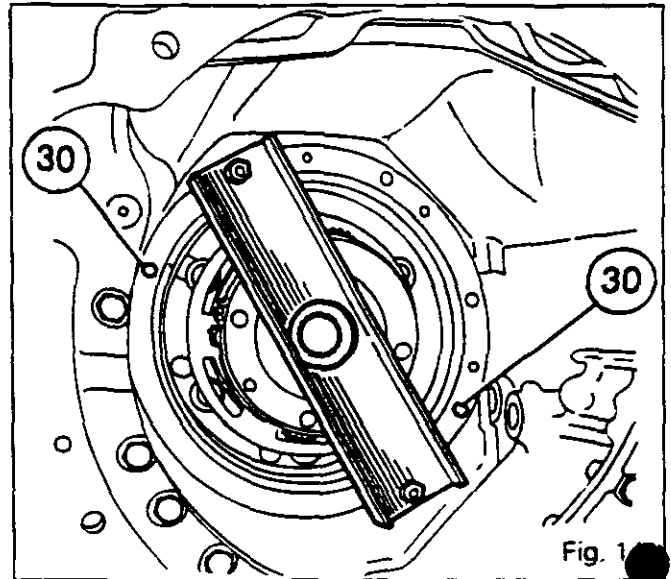
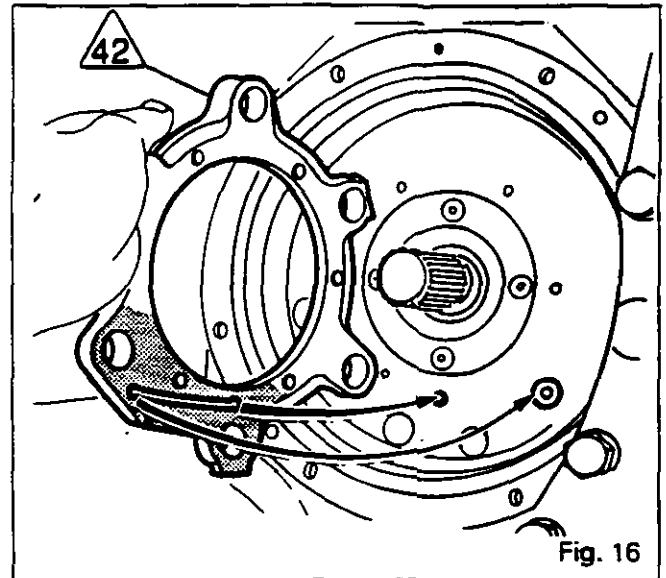
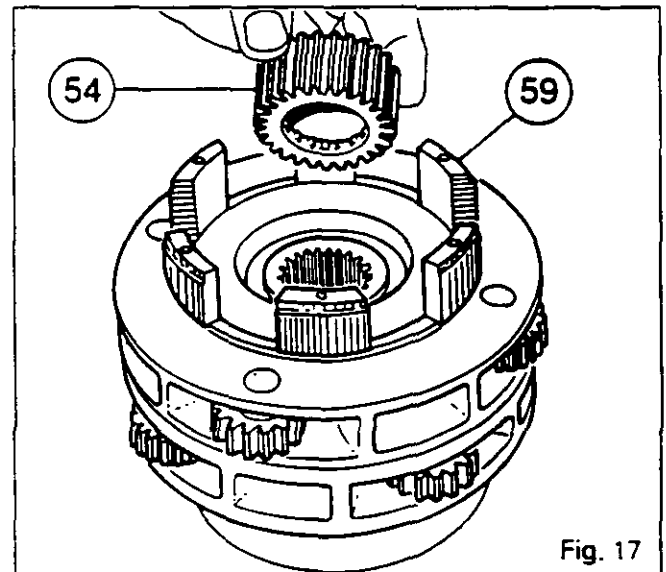

Fig. 1
Fig. 16
Fig. 17
48. Coat the seal mating surface of the brake housing (42) with a sealing compound in the area of the lubrication passage (Fig.16).
49. Fit the input unit like it was during the dismantling. Coat the screws (43) with Loctite 241 and tighten them to a torque of 29 - 37 Nm.
50. To gain access to the bolts (46), turn over the planetary carriers. Place the secondary planetary (61), the housing (59) and the splined hub (54) with the internal splines facing downwards (Fig.17). Install the rear discs (50), the driven plates (48) and the pressure plate (45), the Belleville spring (52) as Fig.1, then the cover (47).
67. Coat the thrust washer (10) with miscible grease and place it on the housing (14).
68. Place the housing with the thrust washer on the support (11).
69. Fit the Belleville spring (4) the correct way round (Fig. 1), a brake disc (15) and a brake plate (16).